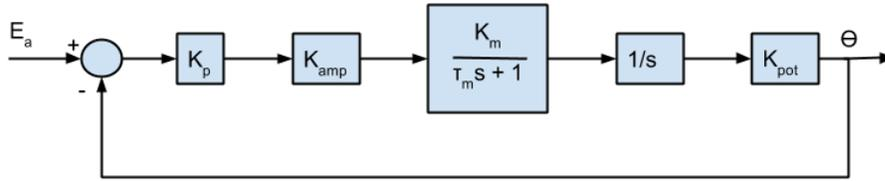
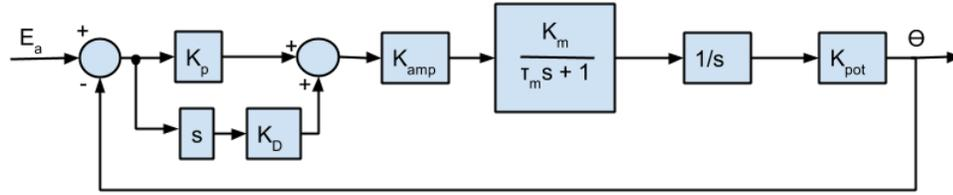
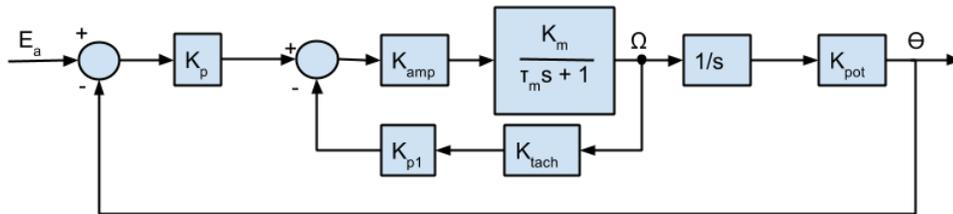
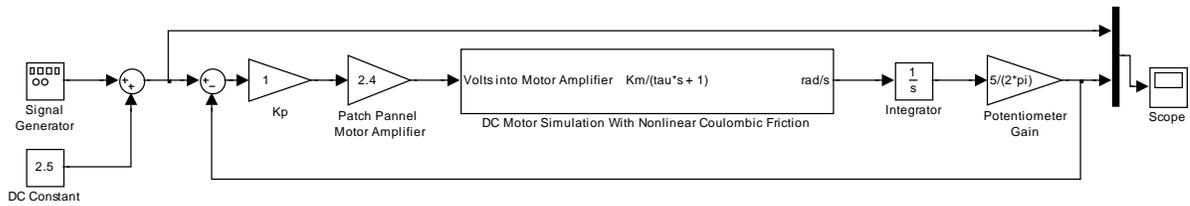

Figure 1: Proportional controller block diagram
Figure 2: Proportional + Derivative Controller Block Diagram
Figure 3: Proportional + Speed Controller Block Diagram
Figure 4: Proportional Gain Control Simulink Block Diagram
In order to design the controllers, we must use previous lab results as well as an understanding of the proposed closed loop system. Refer to the block diagrams in Figure 1, Figure 2 and Figure 3 for guidance. Ensure to take into account all the gains!
2. Place the position transfer function in a unity feedback loop with a proportional gain controller (Figure 1). Calculate the closed loop transfer function of this system. Hint: it should simplify into the form of an ideal second order system.
3. Change the controller in the previous question to a P-D as shown in Figure 2. Calculate the closed loop transfer function and choose values of K_d and K_p so as to satisfy the same design constraints as in question 2, Design 2. Hint: the closed loop transfer function's denominator that you find should simplify into the form of an ideal second order system.
4. Adjust the system to feedback the voltage from the tachometer as well as from the output potentiometer as in Figure 3. Then choose K_p and K_{p1} to satisfy the same design and the constraints from question 2, Design 2. Hint: the closed loop transfer function should simplify into the form of an ideal second order system.
Using MATLAB's Simulink, create three block diagrams to simulate the systems in questions 2, 3, and 4 using the gains you calculated in those questions. See Figures 4, 5 and 6. Load the starter file "GE320_lab4starter.mdl" by typing its name at the matlab command prompt. Make sure to save this file with a new name. In addition, use Figures 1, 2, and 3 as a guide to create your Simulink simulations. Ensure that you include all the following gains and system components: